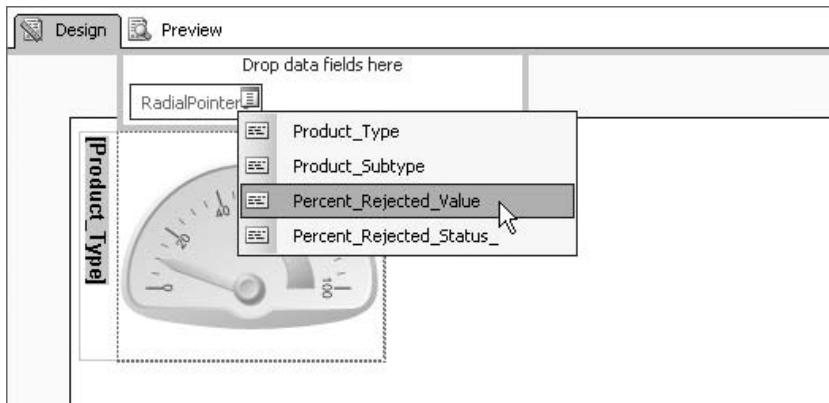

Figure 16-64 Selecting the field for the gauge pointer
58. Click the field selector, and then click the Percent_Rejected_Value field, as shown in Figure 16-64.